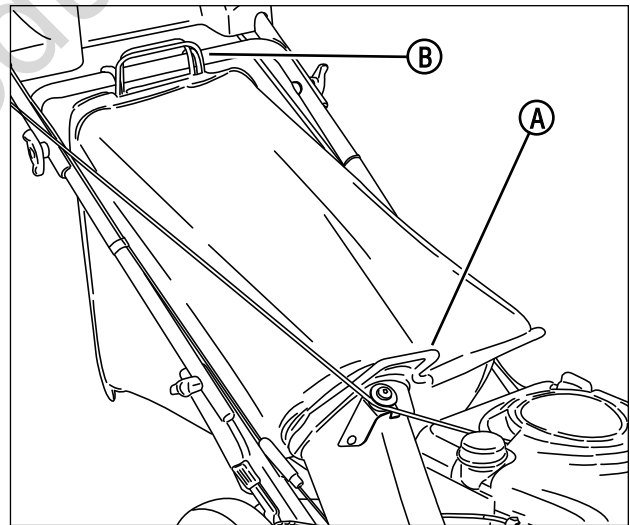

Figure 14: Installing the grass bag
2. Install the grass bag by sliding the connector (A, Figure 14) over the adapter flange.
3. Attach the grass bag hooks (B) over the middle handle cross bar.